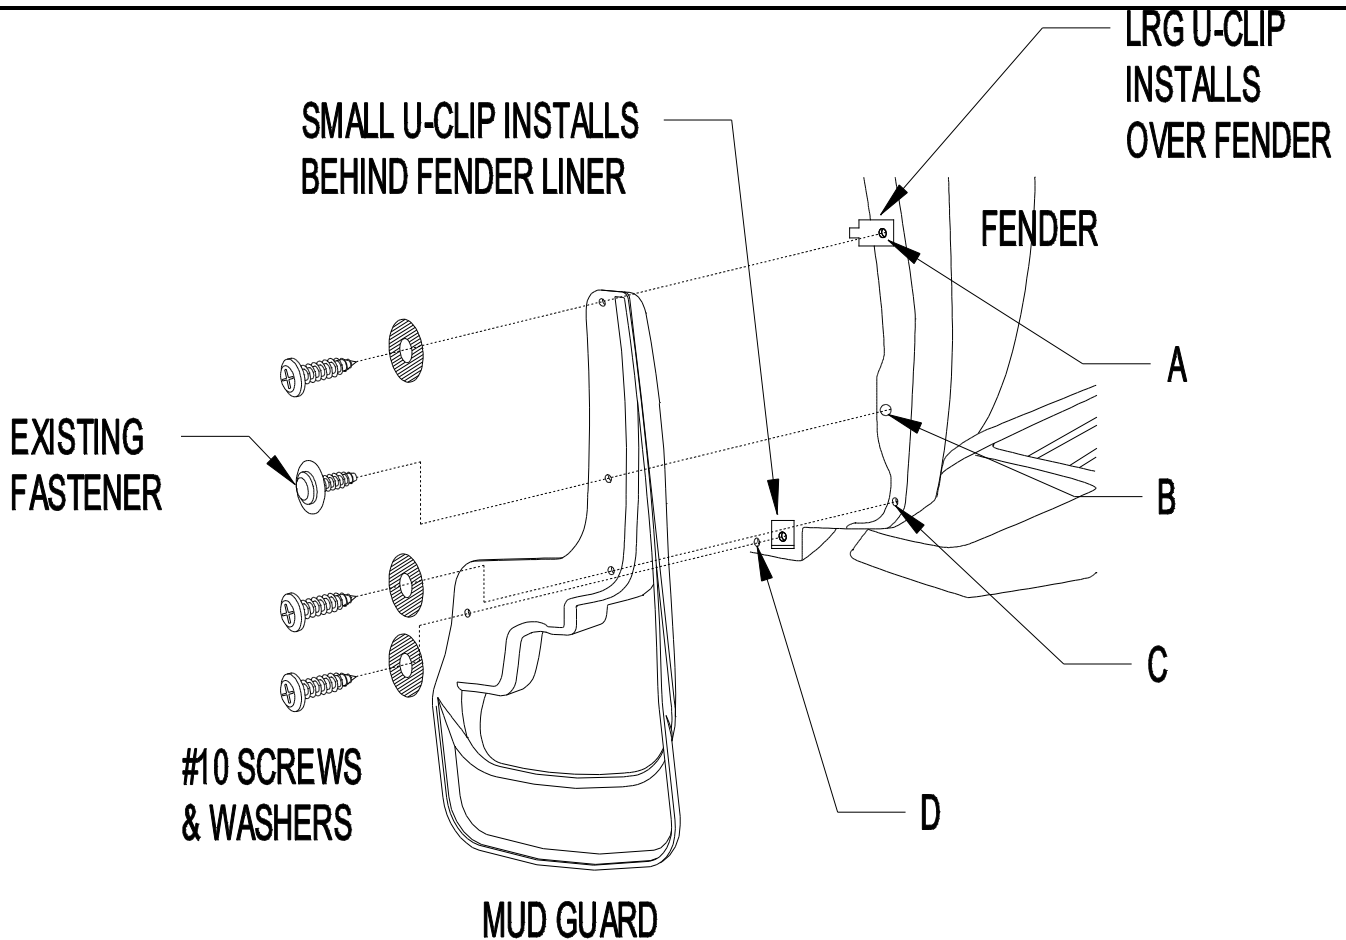

Figure 1
1. Remove existing fasteners from location B (Figure 1).
2. Install mud guard with existing fastener at location B. Check fit and make sure mud guard is parallel to ground before tightening (see Figure 1).
**NOTE:** The small u-clip is used like a nut and DOES NOT clip over fender liner (Figure 1 and 2).